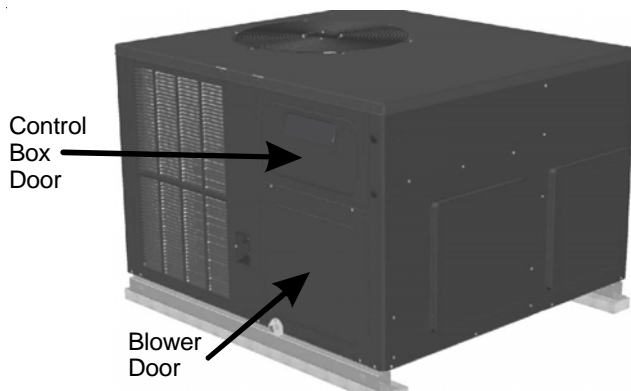

Figure 5
2. Remove the control box and blower door. See Figure 5.